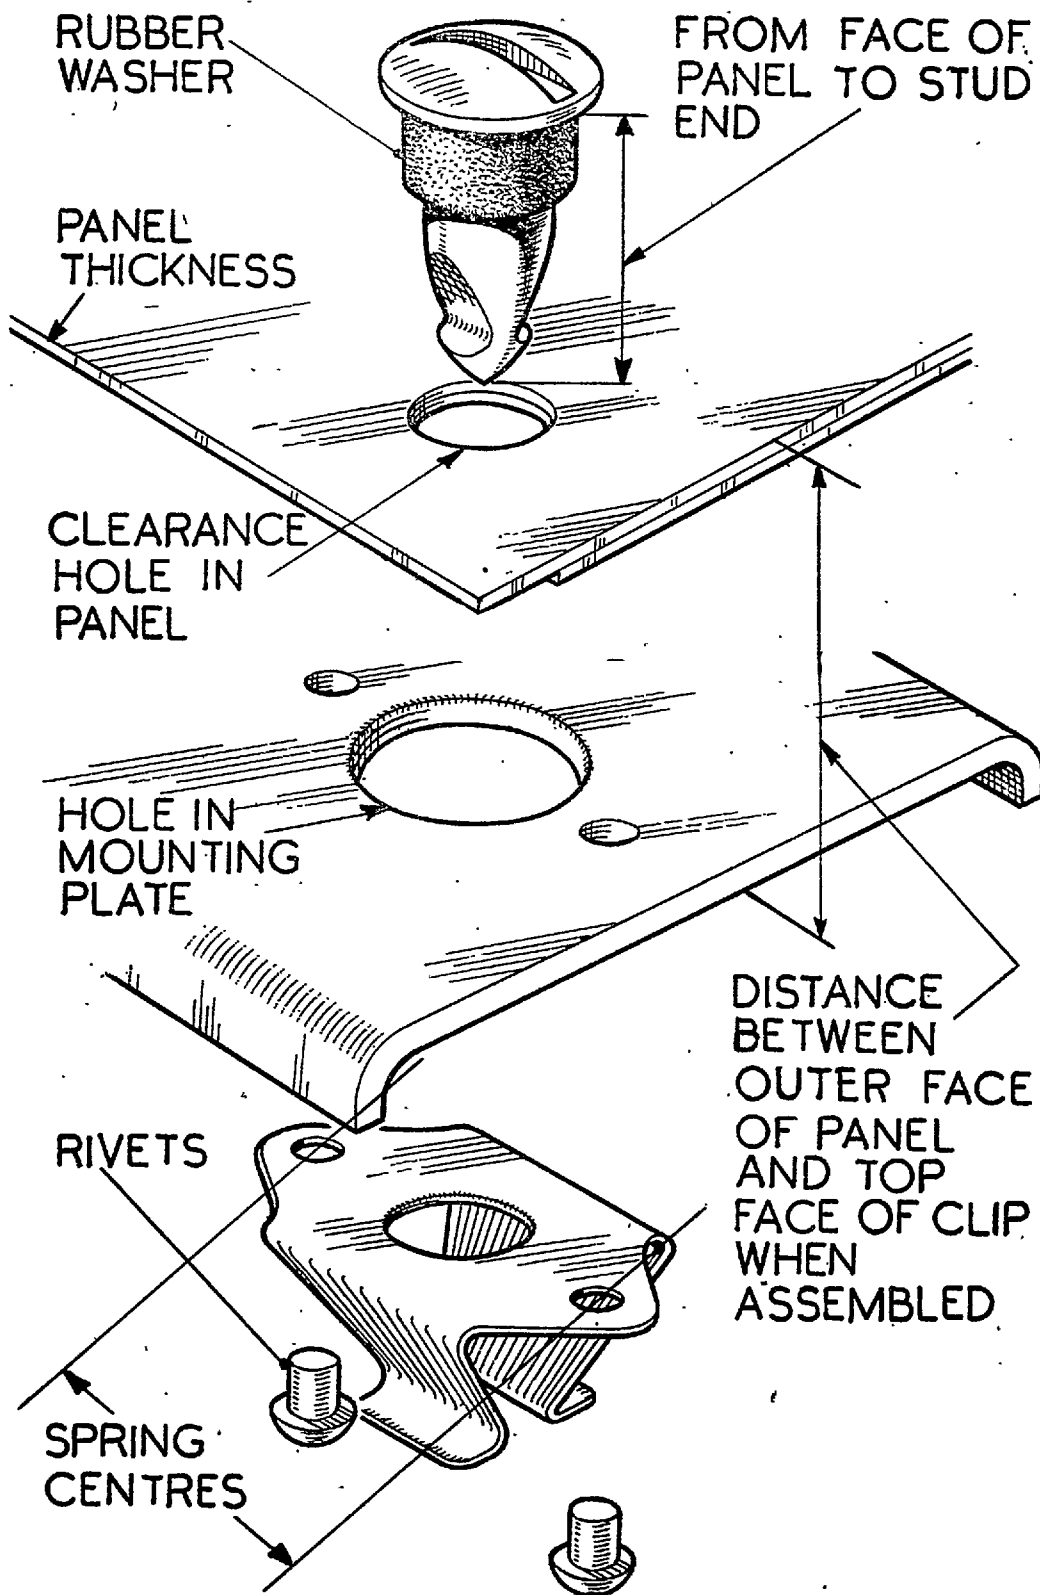

Fig. 1.—Exploded view of Oddie fastener
Exploded view of Oddie fastener	Fig. 1
1. Oddie fasteners (see fig. 1) have been introduced to secure engine cowlings, fairing panels, and similar sheet metal components requiring repeated and rapid attachment and removal, without being subjected to undue wear or localised fatigue of the surrounding metal.
2. Each fastener comprises essentially, a central pin, a coil spring or rubber washer and a two-legged spring clip (see fig. 1).